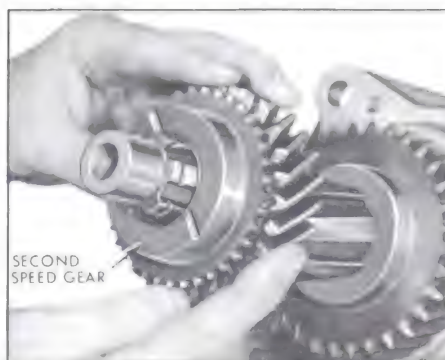

Figure 4-95—Installing Second Speed Gear
5. Install second speed gear, hub forward, over front end of mainshaft. See Figure 4-95.